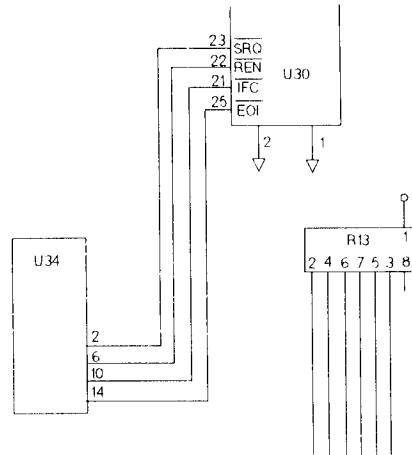

Figure B-16. 08116-66513: Deletion of W3
7. Modify the schematic Figure 10.7-4 as shown in Figure B-16.